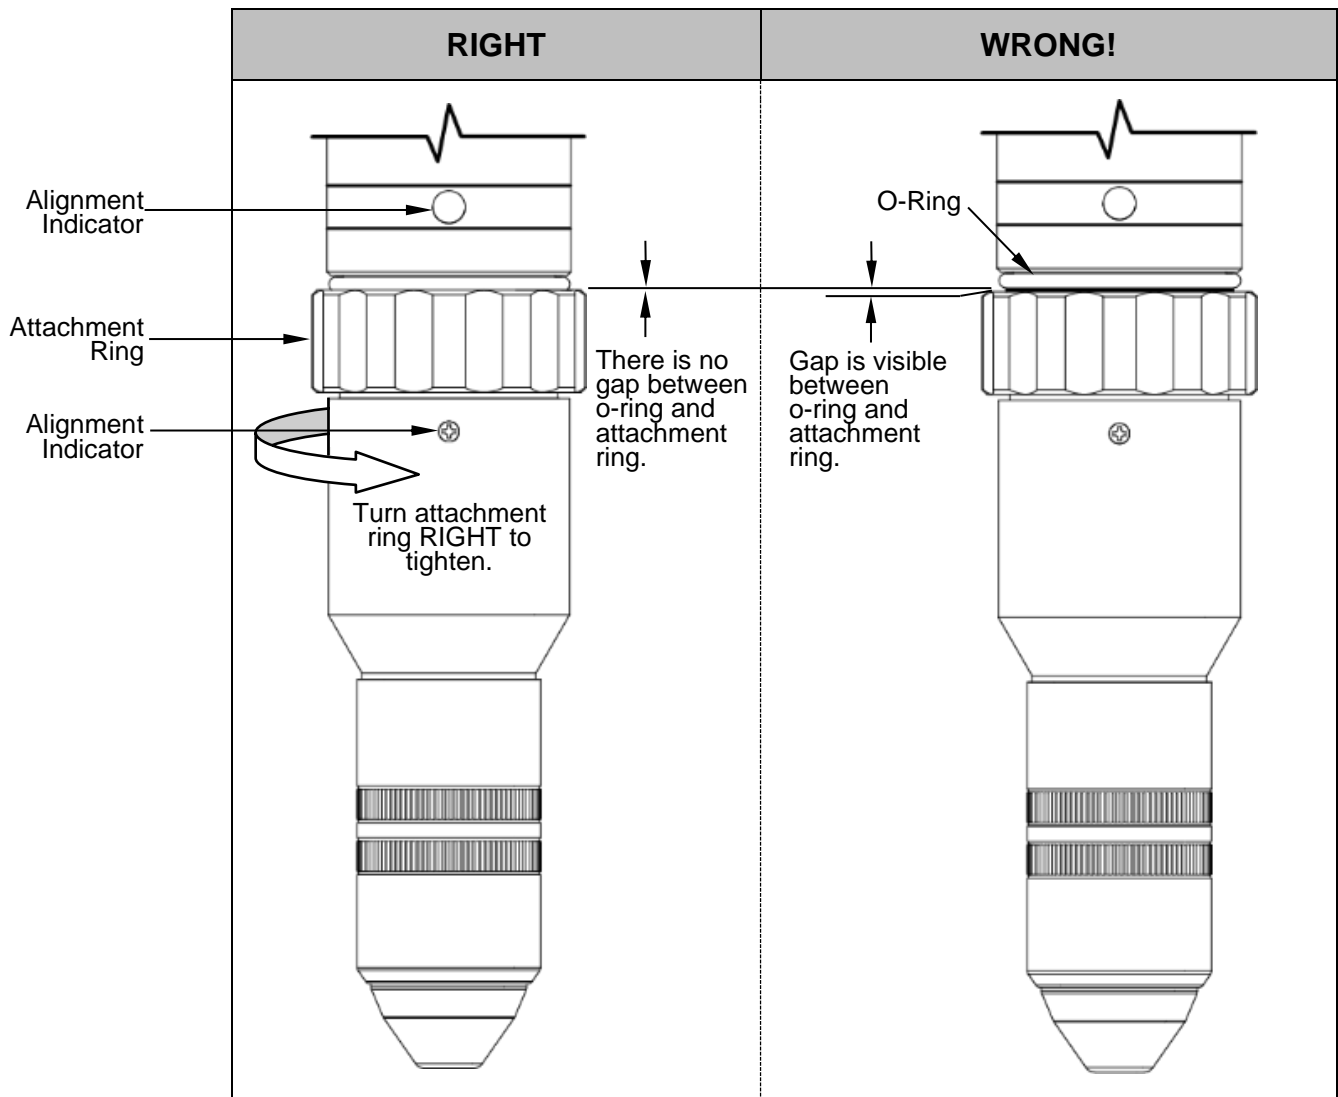

Figure 18: Quick-Disconnect Torch Installation
- 5) Keep tightening the attachment ring until it stops. There should be no gap between the attachment ring and the o-ring on the Torch Base. O-ring lubricant should not be applied to this o-ring because it is not a seal; it only indicates proper installation. See Figure 18.